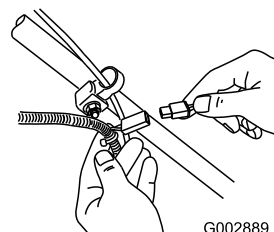

Figure 40
1. Connect the charger to the machine wiring harness located below the electric-start button (Figure 40).